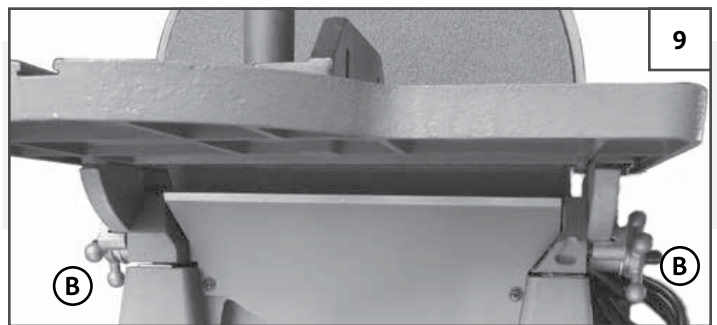

FIGURE 9: SANDING DISC TABLE LOCK KNOBS
3. If the table isn't at 90°, loosen both **LOCK KNOBS (B)** and adjust the table until it is at 90°. See Figure 9.